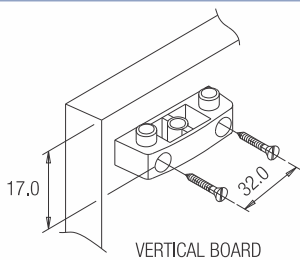

Fig 1
1. Drill in vertical board as per Fig. 1.